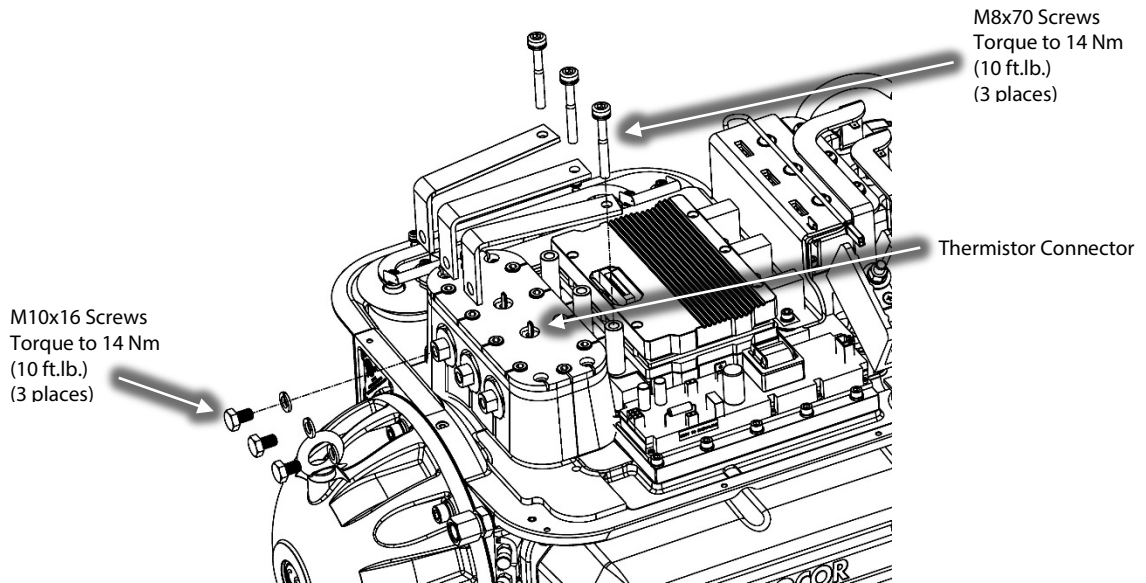

Figure 4 – Motor Bus Bar Removal
13. Remove the three (3) M10x16 screws and three (3) M8x70 screws to release the three (3) bus assembly connections between the IGBT assembly and the high-power feed through. Refer to Figure 4 (Motor Bus Bar Removal).
14. Use pliers to disconnect the two (2) connectors from thermistor sensor feedthrough. Refer to Figure 4 (Motor Bus Bar Removal).